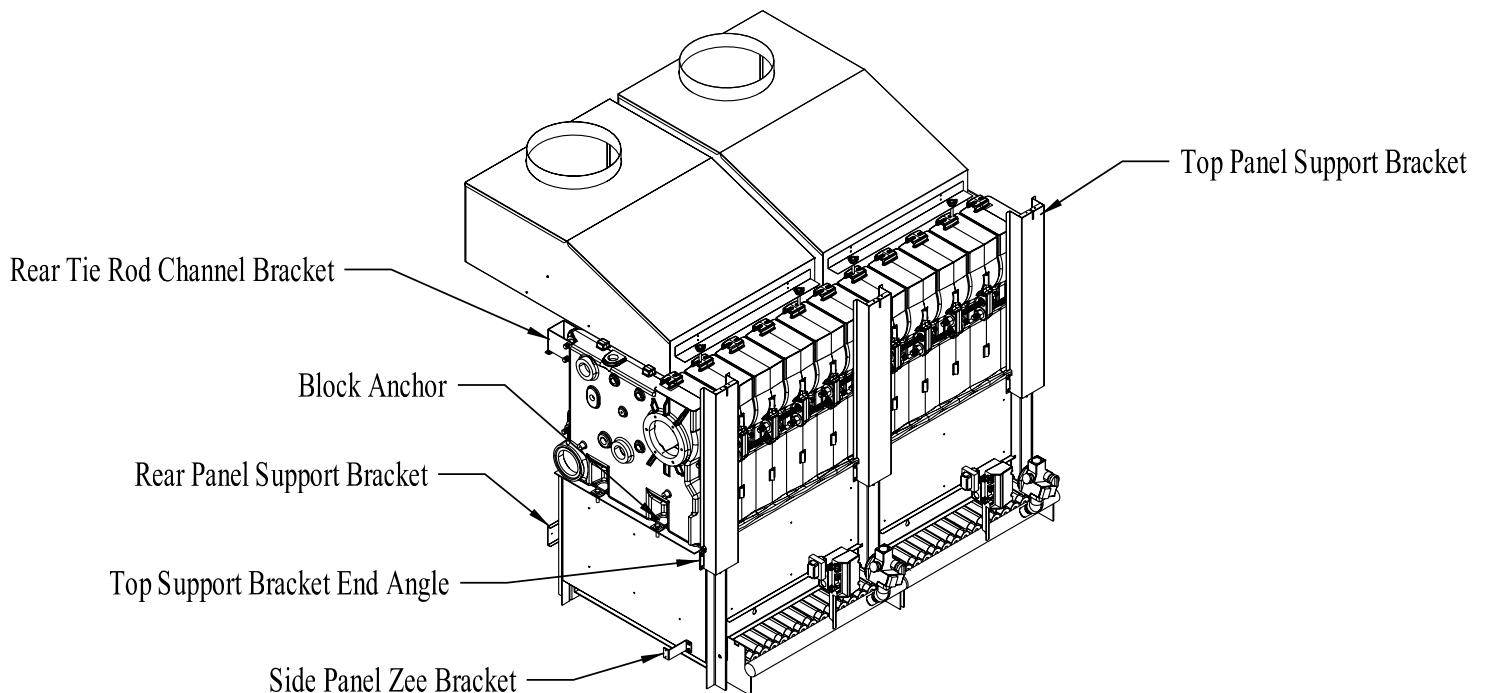

Figure 13: Jacket Mounting Bracket Arrangement
- 1) On the left and right side base panels attach the jacket side panel zee bracket and the jacket top support bracket end angle with #10 x 1/2" sheet metal screws as shown in Figure 13.
- 2) Jacket top support brackets are required at the joints between base modules and at each end of the base assembly. Attach the jacket top support brackets to the base front panel(s) with #10 x 1/2" sheet metal screws as shown in Figure 13. Also fasten the jacket top support brackets located on each end of the assembly to the jacket top support bracket end angles using #10 x 1/2" sheet metal screws.